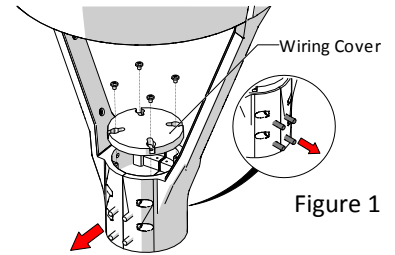

Figure 1
1. Loosen the eight (8) set screws from the base and then remove the wiring cover [Figure 1].